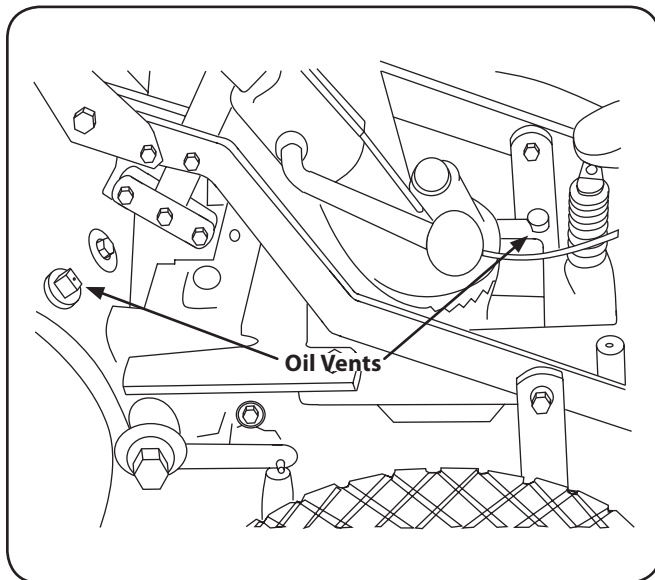

Figure 6-5
- If tilling during very hot weather, the gear oil may heat up and expand inside the transmissions. To allow for this oil expansion, both the power unit transmission and the tine attachment transmissions have oil relief vents. See Figure 6-5.